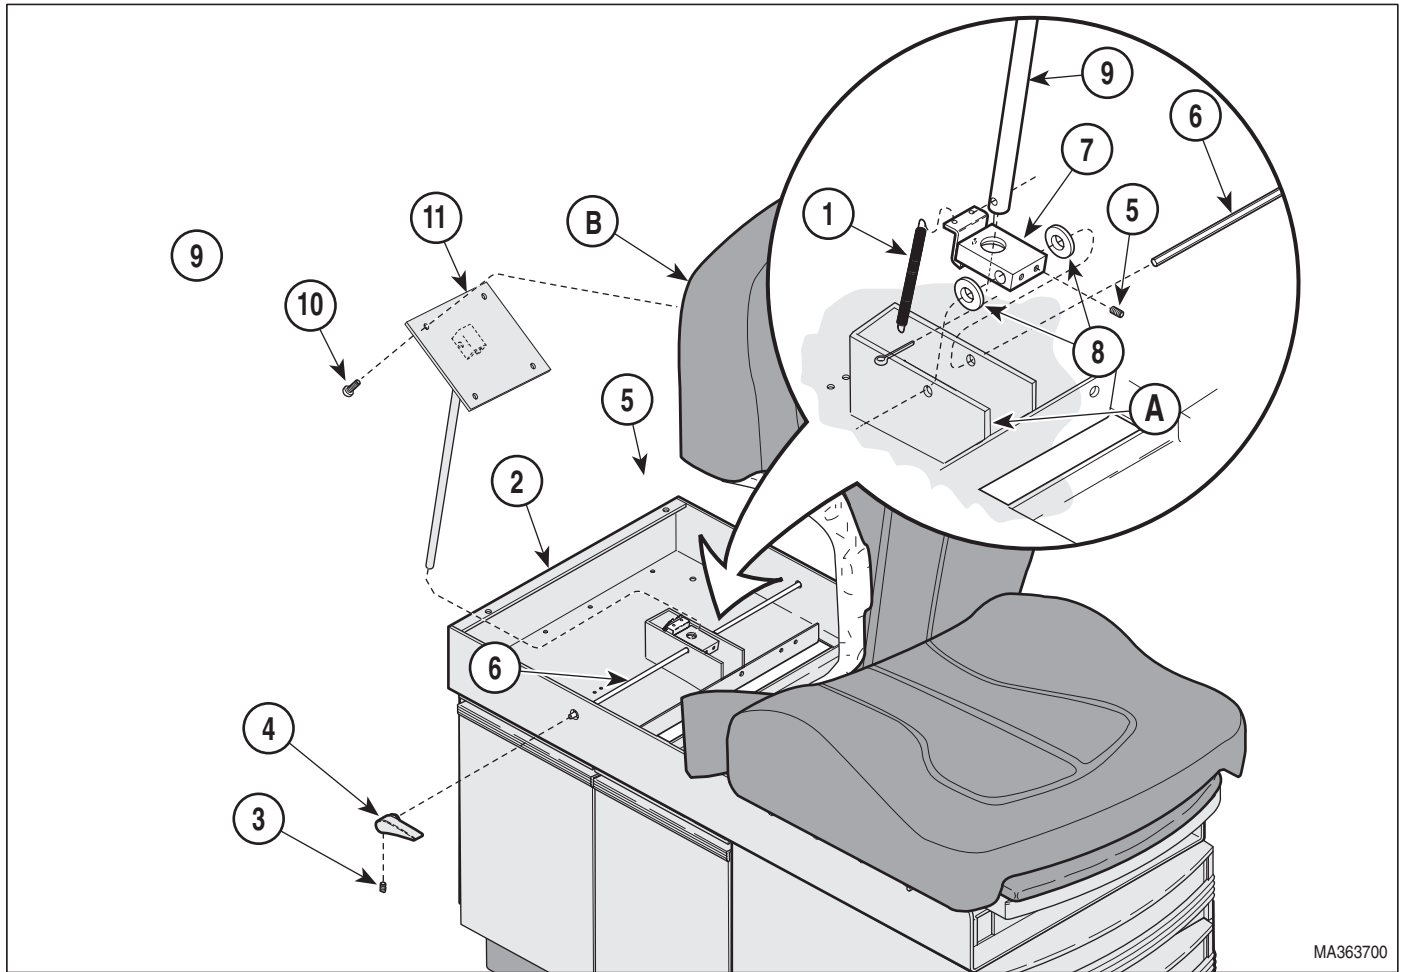

Figure 4-7. Back Lock Assembly Removal / Installation
- (4) Elevate the head board assembly (A) until the back support rod (5) is clear of the upper wrap cover (9). Allow the head board (A) to rest against the seat section (B).
- (5) Remove the four screws (10) that secure the upper wrap cover (9) to the upper wrap weldment (7) and remove the upper wrap cover.
- (6) Disconnect the back lock springs (1, Figure 4-7) from the upper wrap weldment (2).
- (7) Loosen the set screw (3) and remove the back lock handle (4).
- (8) Loosen the two 1/4-20 x 3/8 set screws (5) that secure the back lock rod (6) to the back lock assembly (7).
- (9) Pull the back lock rod (6) out of the back lock assembly (7), two washers (8) and the bracket (A) of the upper wrap weldment (8).
- (10) Remove the back lock assembly (7) and two washers (8) from the bracket (A) of the upper wrap weldment (2).
- (1) Insert the back lock rod (6, Figure 4-7) thru the bracket (A) of the upper wrap weldment (2), two washers (8) and back lock assembly (7).